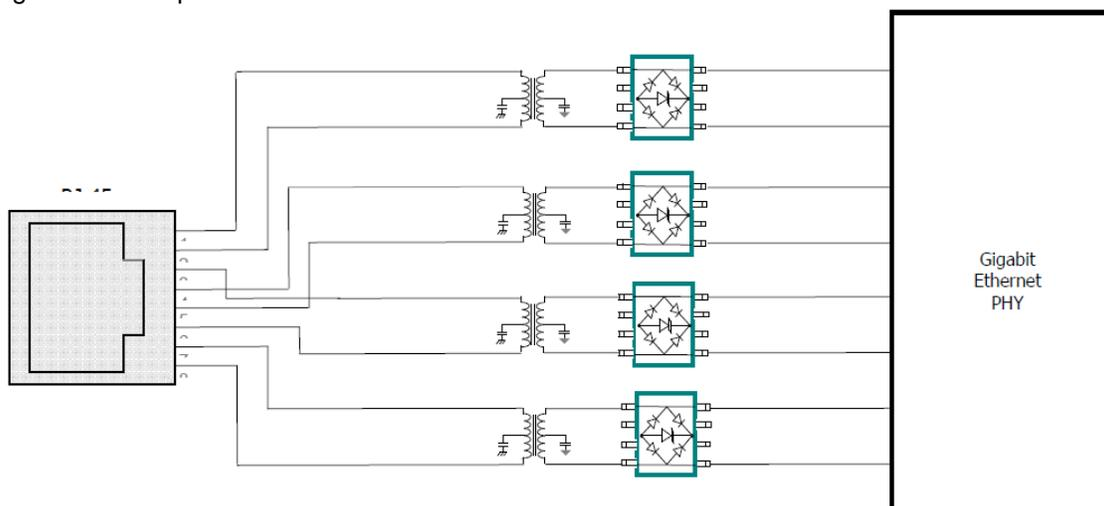

Figure 4 – RClamp 2502L Flow-through layout for Gigabit Ethernet Protection
- When available, use flow-through packages on high speed interfaces. These packages allow for placing the protection component directly over the PCB differential pair. This eliminates stubs and unnecessary bends in the traces, which helps preserve signal quality. Figure 4 shows an example of how flow-through packages can be implemented.